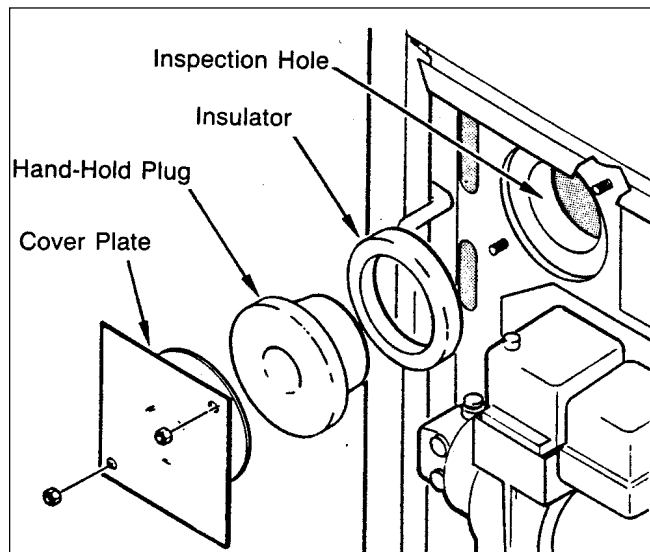

Figure 19. Inspection Hole Location.
2. Remove the inspection hole cover (see Fig. 19).